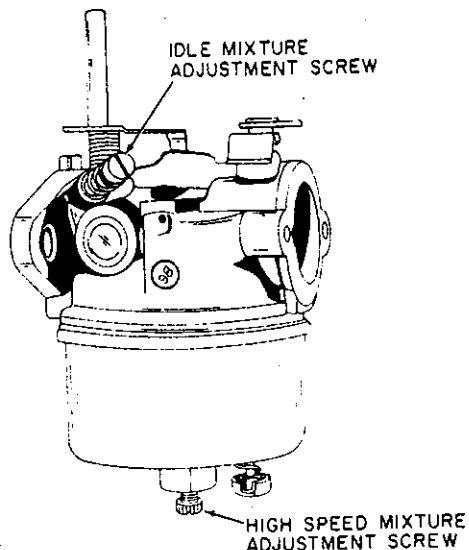
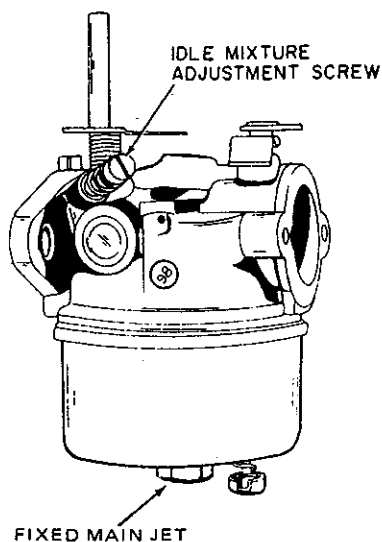
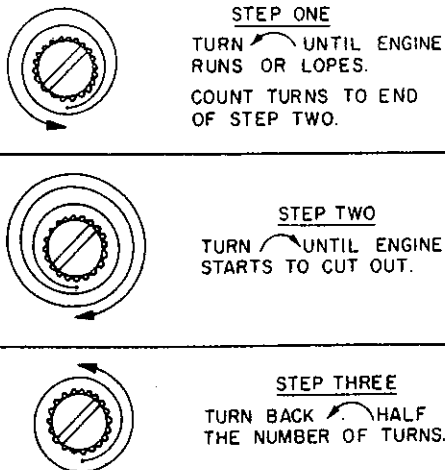

Figure 32
Figure 33
Figure 34
- B. Preset the main and idle adjustment screws. Turn the adjustment screw on carburetor IN until lightly seated, then back out one full turn. (See Figure 32.) Some carburetor models have a fixed main jet. The absence of the adjustment screw and receptacle indicate fixed jet. (See Figure 33.)
wide open position, back the main adjustment screw out counter-clockwise slowly until rich drop-off engine speed is reached. Turn main adjustment screw (Figure 32) in clockwise until lean drop-off speed is reached. (Engine will miss and run erratically due to lack of fuel.) Back main adjustment out midway between rich and lean drop-off. (See Figure 34.)
- D. Bring the throttle control to low speed position with outboard in gear and follow the procedure in preceding paragraph C for adjusting the idle system (See Figure 33.) Later carburetors are similar to earlier carburetors with a few exceptions. The idle air adjustment screw has been relocated to facilitate adjustment of both air and fuel in the idle section. The early carburetor controls only the AIR bleed by the idle adjustment screw.